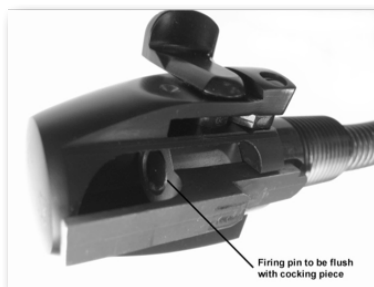

Fig. 8
3. Examine the bolt sleeve assembly to assure that the rear end of the firing pin is flush with the rear end of the cocking piece. (refer to Fig. 8)